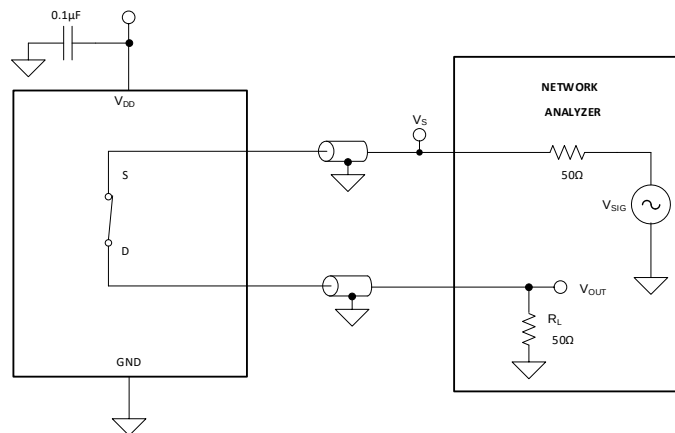

图 16. Bandwidth Measurement Setup
Bandwidth is defined as the range of frequencies that are attenuated by less than 3 dB when the input is applied to the source pin (S_x) of an on-channel, and the output is measured at the drain pin (D) of the device. 图 16 shows the setup used to measure bandwidth.